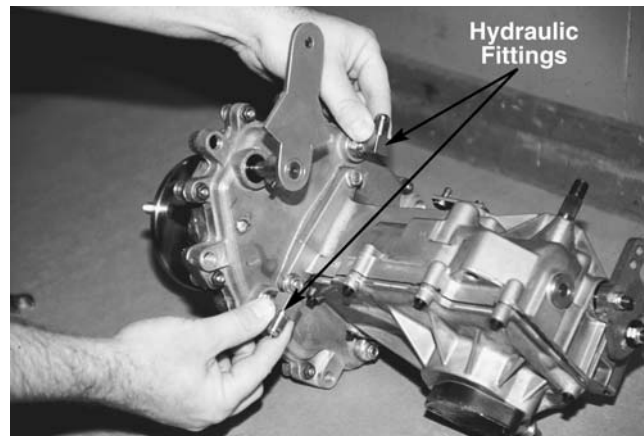

Figure 10-42.
2. Using an 11/16 wrench, remove the hydraulic fittings. This will allow easy removal of the nuts attaching the hydrostatic pump. See Figure 10-42.